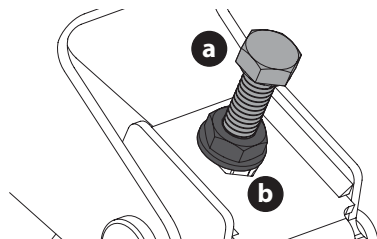

Figure 35
3. Locate the adjustment bolts (a) on the left and right side of the deck (Figure 35).
4. Loosen, but do not remove, the jam nuts (b) on the adjustment bolt. Adjust either the right or left adjustment bolt up or down as necessary until the side-to-side heights are equal (Figure 35).
- When proper adjustment is achieved, re-tighten the jam nuts (b). Tighten to 200 in-lbs (23 N-m) (Figure 35 on page 27).